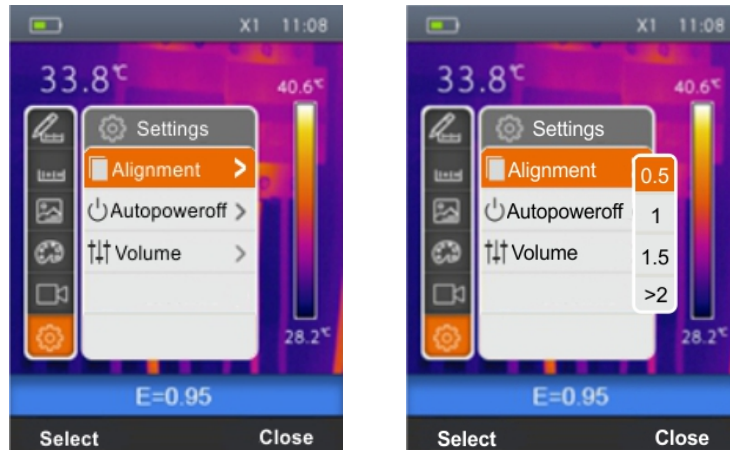

Fig. 13: Setting the alignment distance
1. Select the item “Alignment” with the keys \oplus or \ominus and press the key \equiv . The screen of Fig. 13 – Right side is shown on the display.